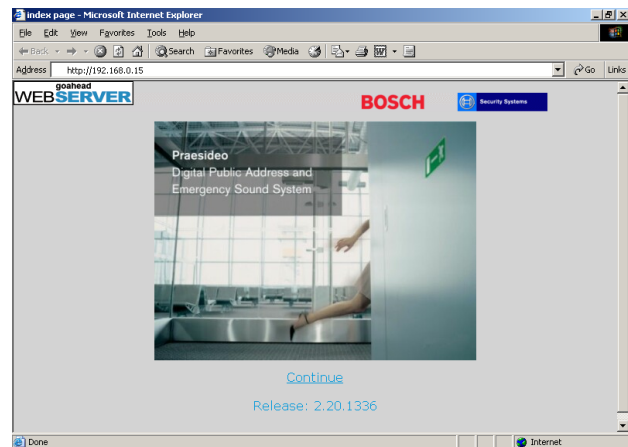

figure 28.8: Praesideo web interface home page.
- 3 Click the *Go* button at the end of the address bar. A screen similar to the one in figure 28.8 appears.